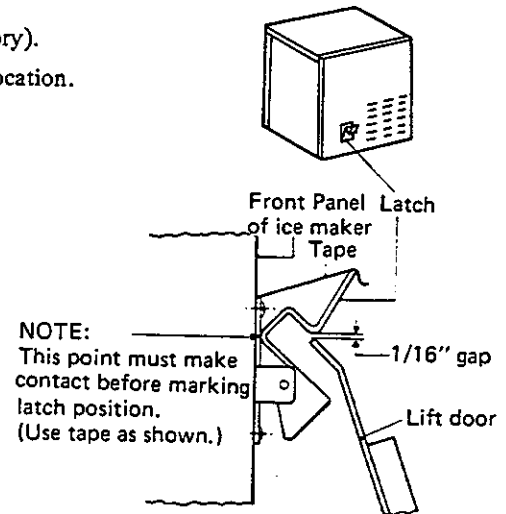

Fig. 14 Attachment of latch
13. Position the latch (accessory) horizontally on the front panel of the ice maker as per Fig. 14. With the latch taped back and in position as shown, mark the latch location vertically.
14. Drill (2) 7/64" holes in the front panel for the latch.
15. Remove tape and install latch using the (2) 6 x 1/2" long sheet metal screws provided.